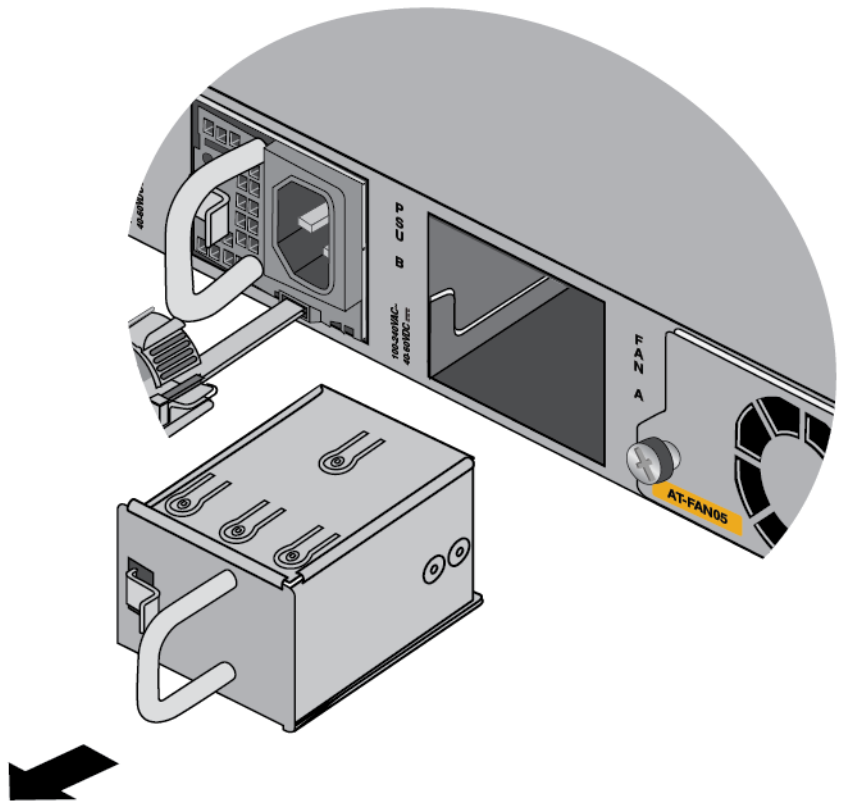

Figure 56. Removing the Blank Power Supply Panel from Slot PSU B
2. If there is already a power supply in PSU A, remove the blank panel from PSU B slot by pressing the release tab to the right and sliding the panel from the switch. Refer to Figure 56 on page 121.